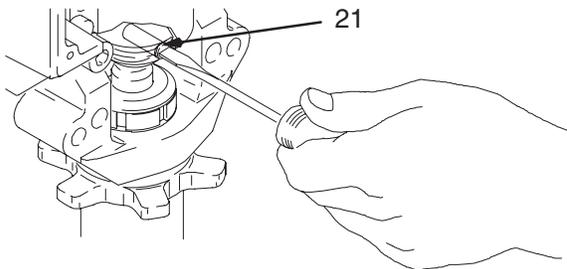

Fig. 21
3. Fig. 21. Use screwdriver to push retaining spring up and pin out (21).